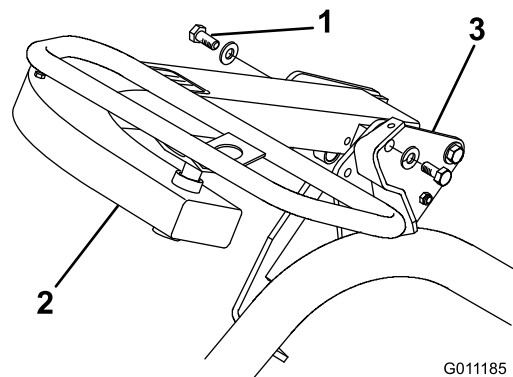

Figure 6
3. Select the desired mounting hole for operator comfort and secure the arm with 2 bolts (1/2 x 3/4 inch) and washers (1/2 inch) (one each in loose parts) (Figure 6).